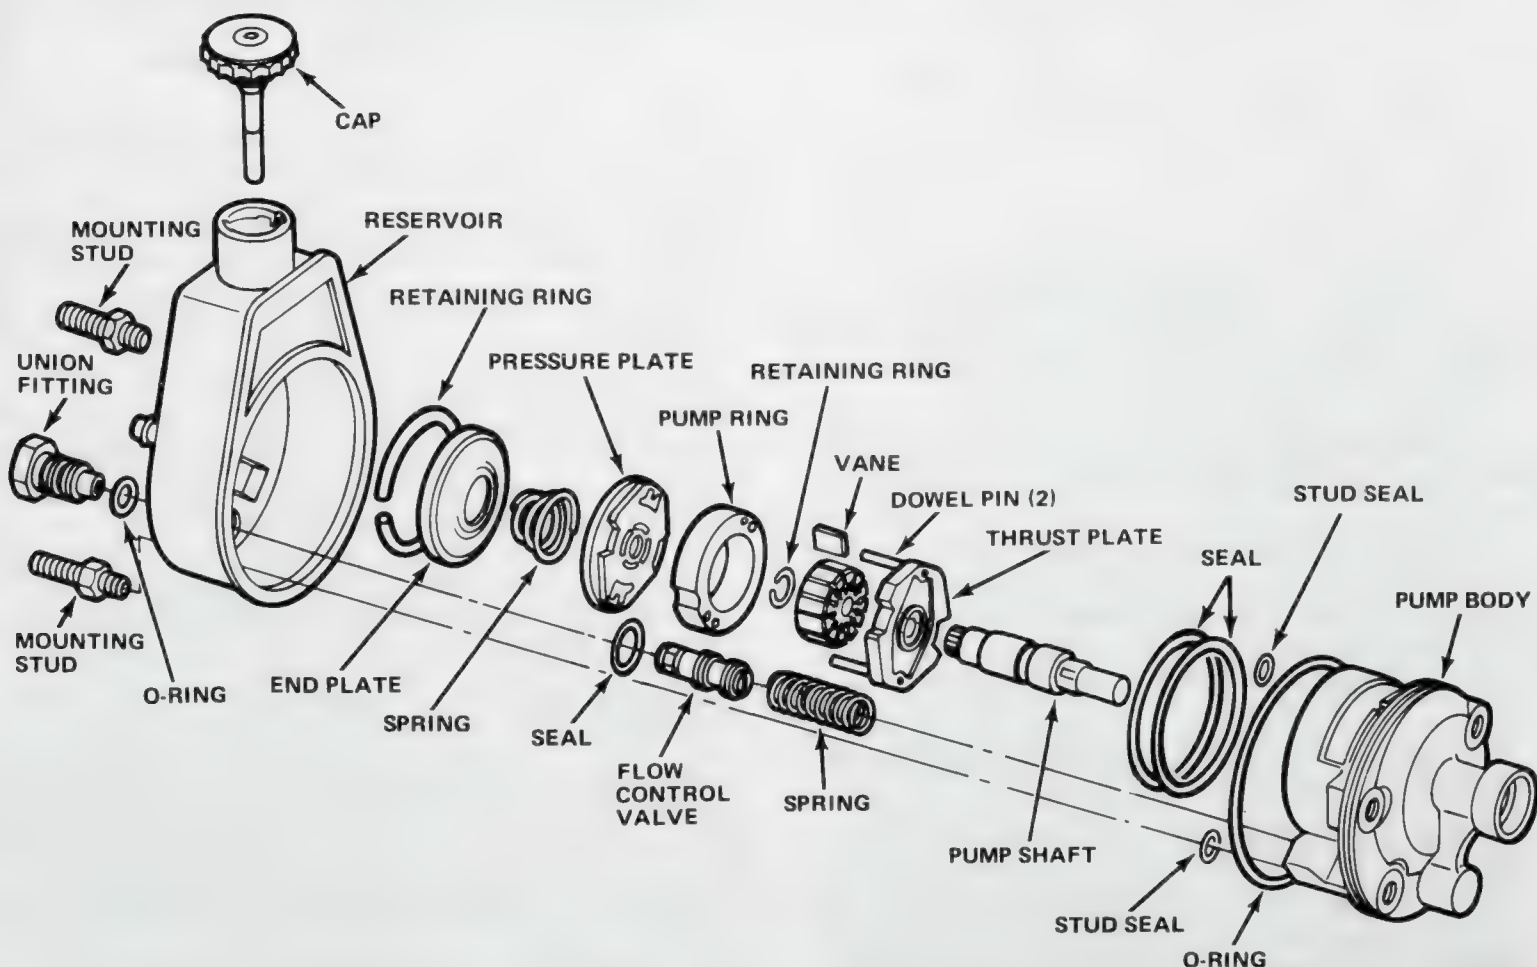

Fig. 2K-116 Power Steering Pump (Exploded View)
(4) Remove pump pulley using tool J-25034 (fig. 2K-114).
(5) Clamp pump front hub in vise so pump shaft is pointing downward. Do not overtighten vise as bearing may be distorted.